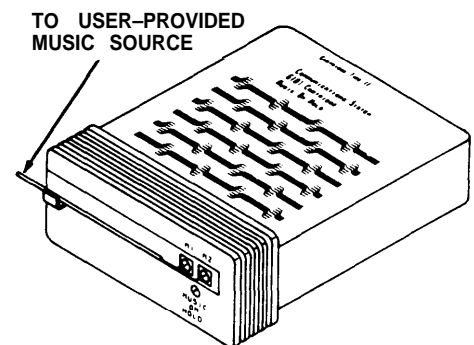

Figure 4
3. Take each wire from the output of the music source and loop it clockwise around a terminal screw (Figure 4). Again, it is not critical which wire goes to "M1" and which goes to "M2".